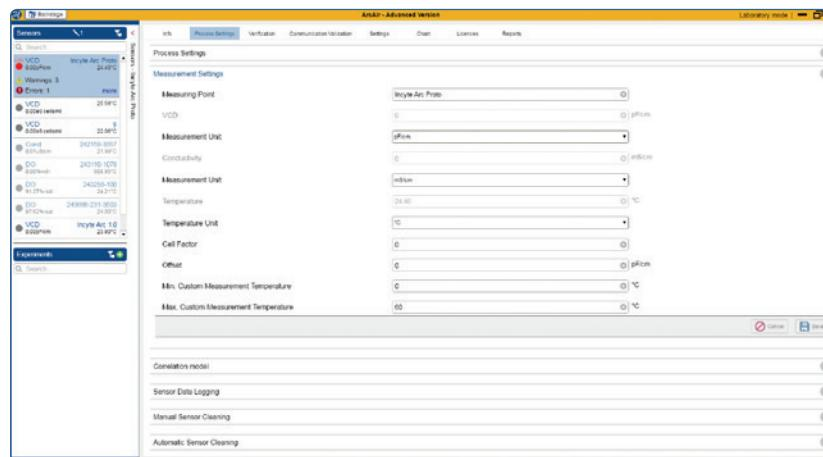

Figure 16: Overview of the Measurement Settings
**NOTE:** The sensor status (see figure 16) maybe red initially, as the sensor cannot measure correctly in air. Upon insertion in conductivity solution or medium the sensor may stay in yellow warning-state, as no scan fitting, or correlation-calculation can be done without cells/microorganisms.